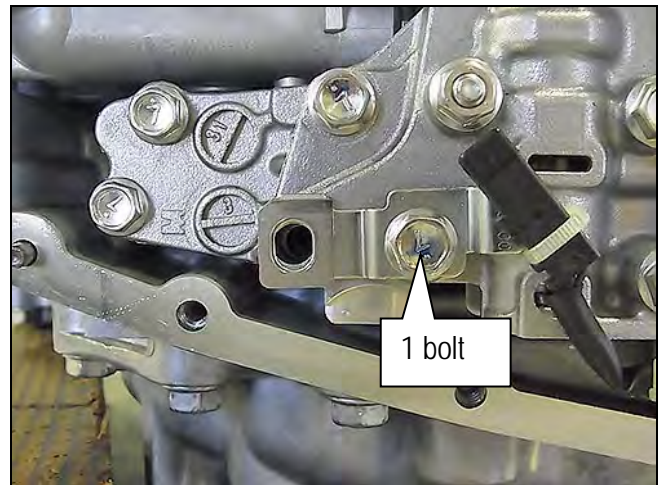

Figure 8D
8. Install the CVT fluid temperature sensor bracket to the valve body with one (1) bolt (Figure 8D).
**NOTE:** Leave one (1) bolt hole blank as it will be used to secure the oil strainer at a later step.